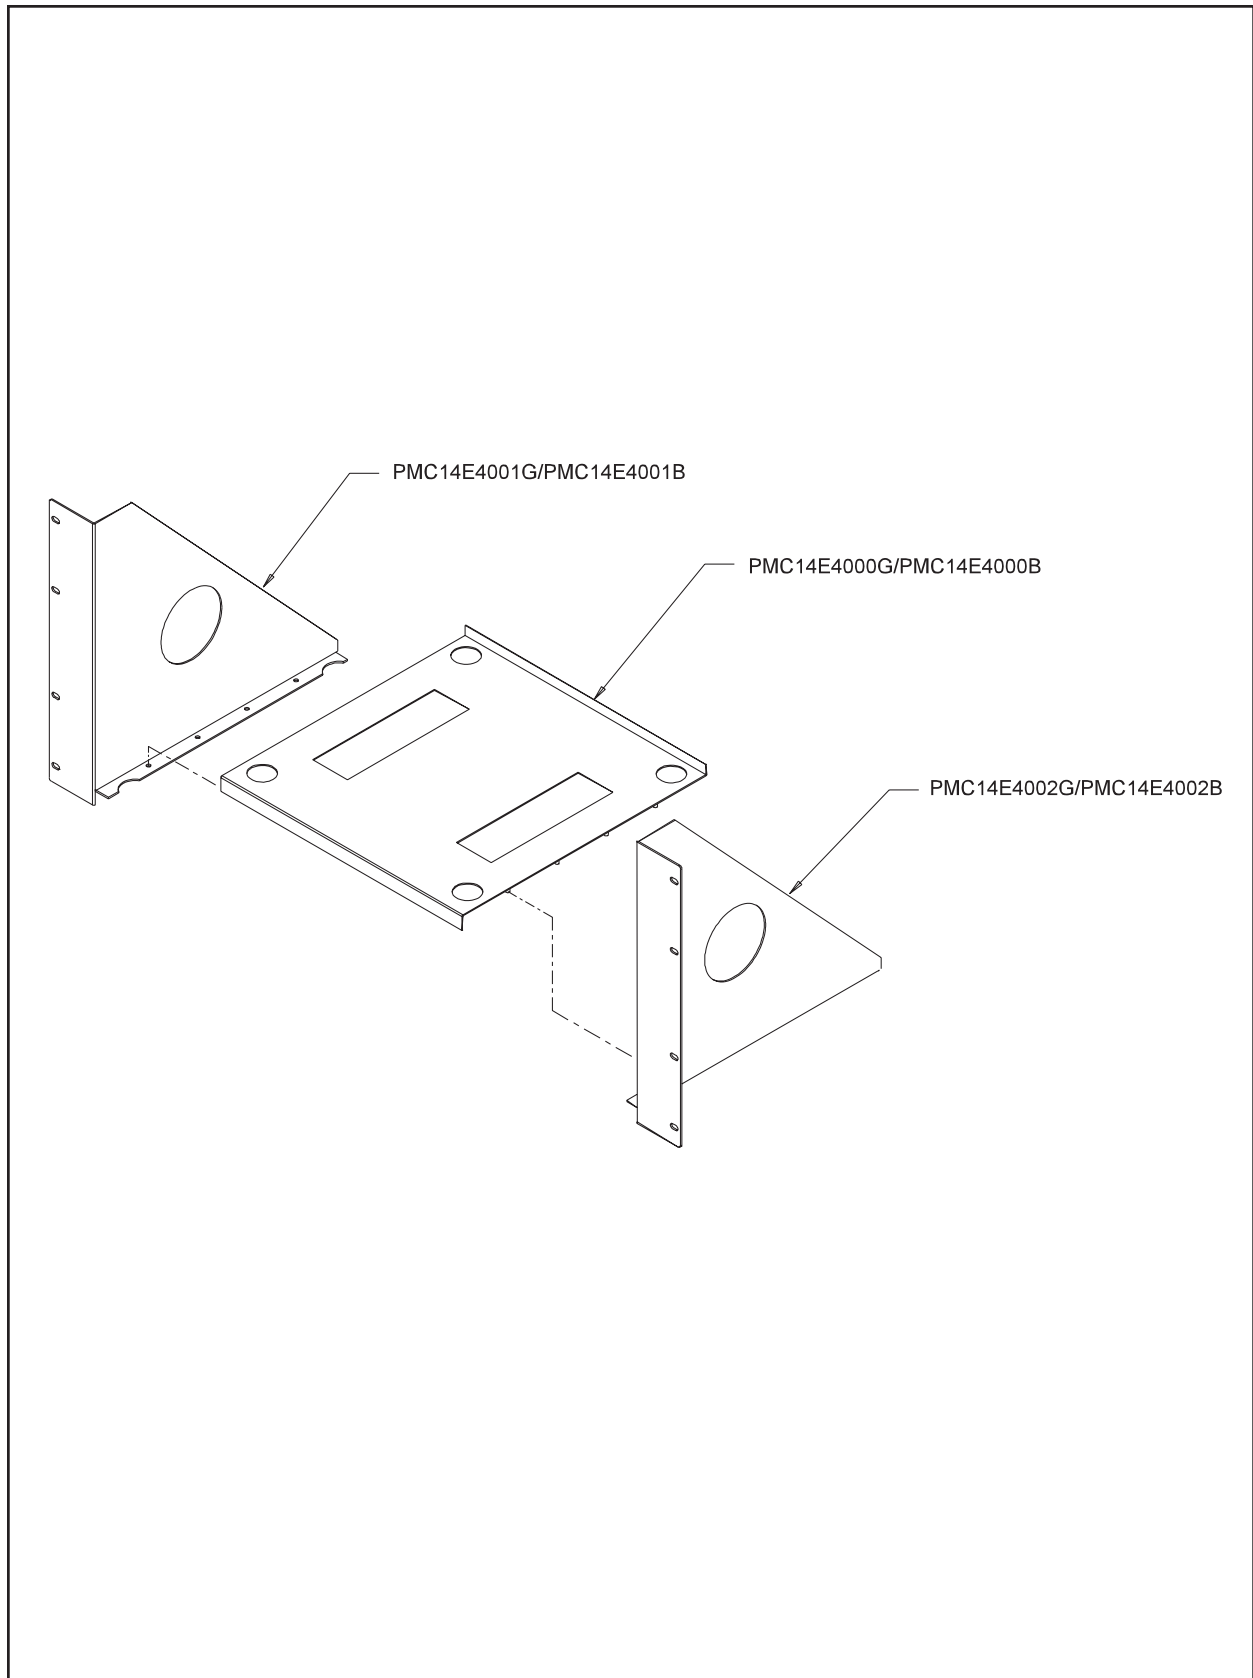

Figure 2. RMA14E Series Rack Kit Assembly
1. Assemble the rack as shown in Figure 2 using the supplied hardware.